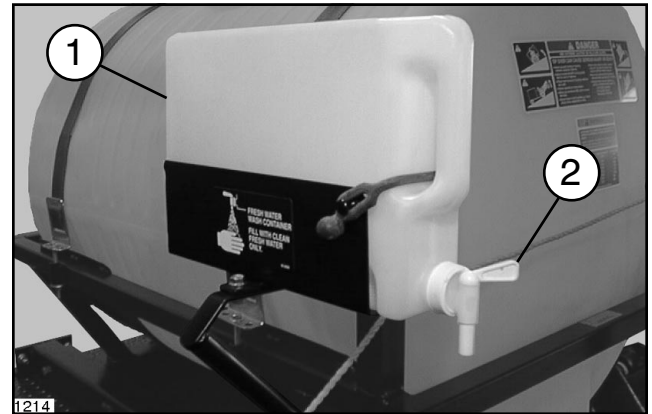

FIG. 15
1. Turn Tank Spigot to on position. See FIG. 15.